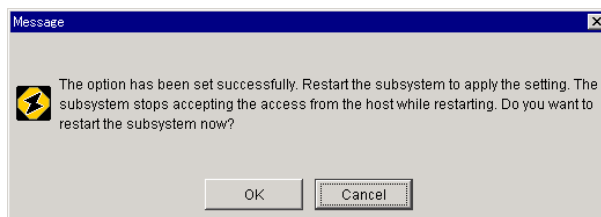

Figure 4.2 Confirmation Message
7. A message appears confirming that this optional feature is set. It also requests confirmation to restart the subsystem. Click the **OK** button to restart (see Figure 4.2).